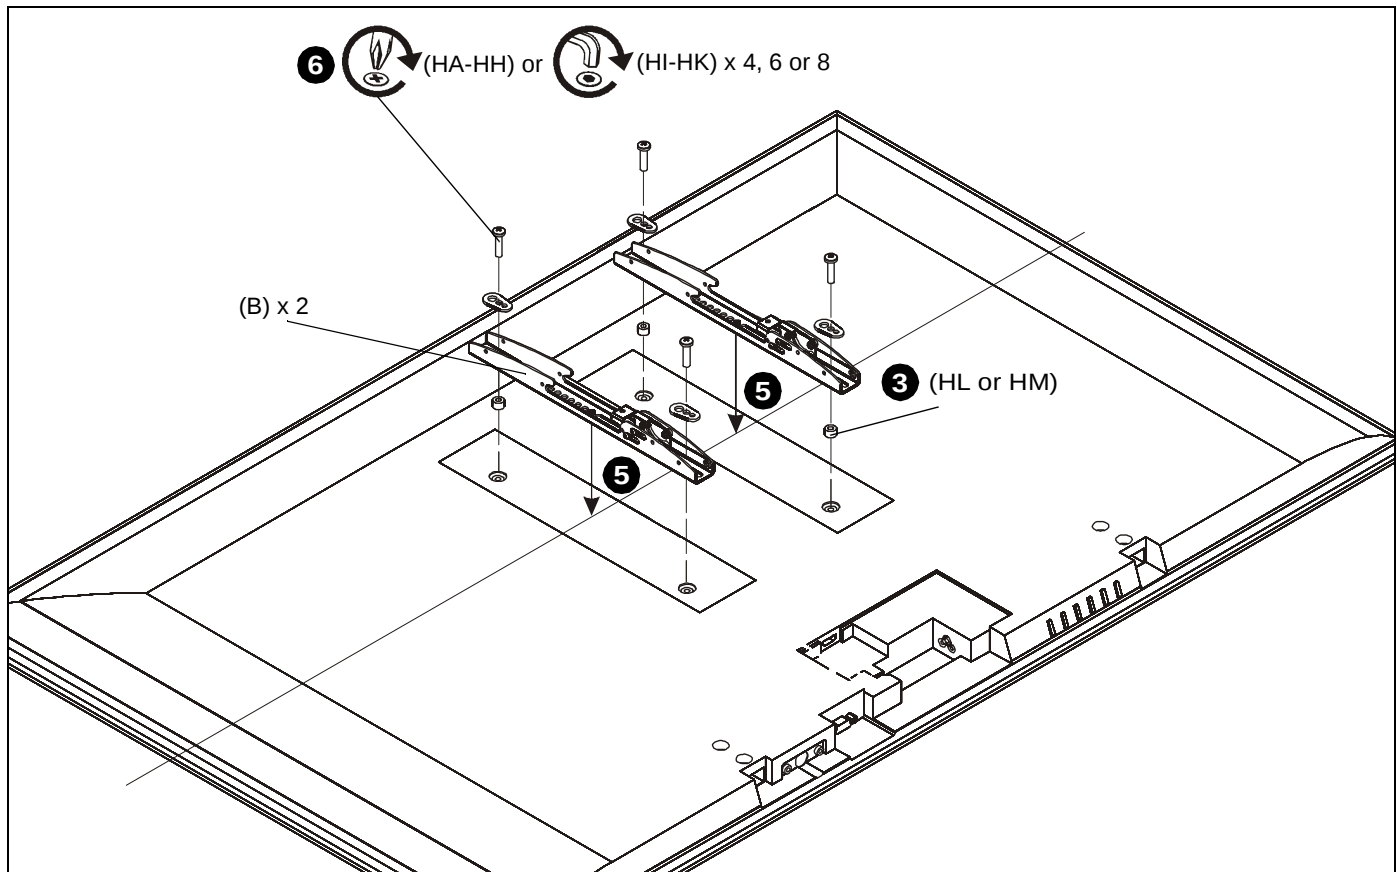

Figure 8
2. Select screw *diameter* by examining hardware (HA-HK) (4mm, 5mm, 6mm or 8mm) and comparing with mounting holes on display. (See Figure 8)
3. Select spacers: (See Figure 8)
- If mounting holes are not recessed and both uprights (B) can lay flat against display, then no spacers are required.
- If mounting holes are recessed, or if protrusions prevent uprights (B) from laying flat, then spacers (HL or HM) must be used.
4. Select screw *length*: (See Figure 8)
- Using your hand, insert **SHORTEST** length screw of selected diameter (HA, HD, HG or HI) through universal washer (HN), uprights (B), selected spacer (HL or HM), into display mounting hole. Do NOT thread screw into hole at this time.
**NOTE:** Universal washers (HN) are not needed if using M8 button head cap screws (HI, HJ or HK).
5. Place uprights (B) on display, ensuring: (See Figure 8)
- Center of uprights (B) are as close to the center of the back of display as possible after being installed. Center of bracket is indicated by the diamond-shaped hole.
6. Use selected screws and spacers to install two interface uprights (B) to back of display. (See Figure 8)